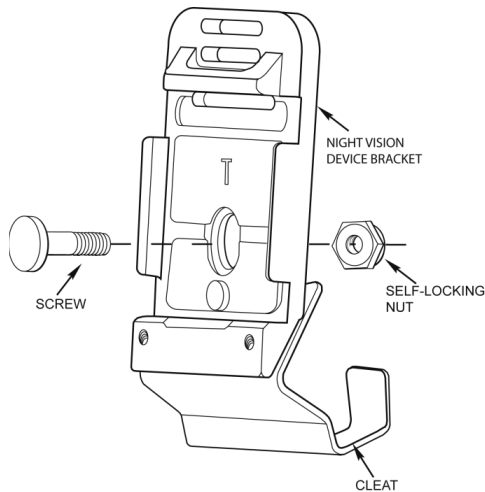

Figure 2. New ACH NVG Bracket Assembly.
- The tan (new) ACH NVG bracket has a screw and self-locking nut as shown in Figure 2. See WP 0027, Additional Authorization List, for appropriate NSN.